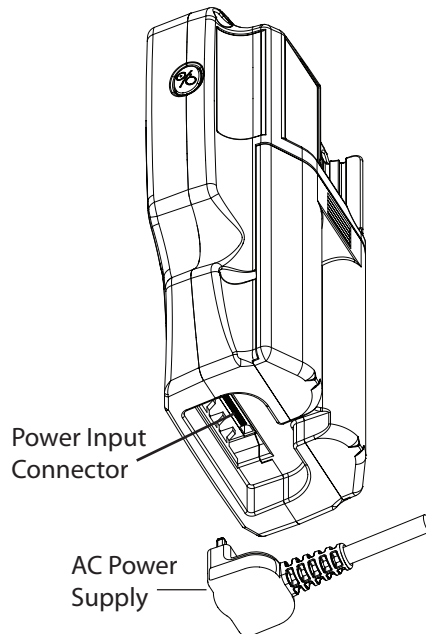
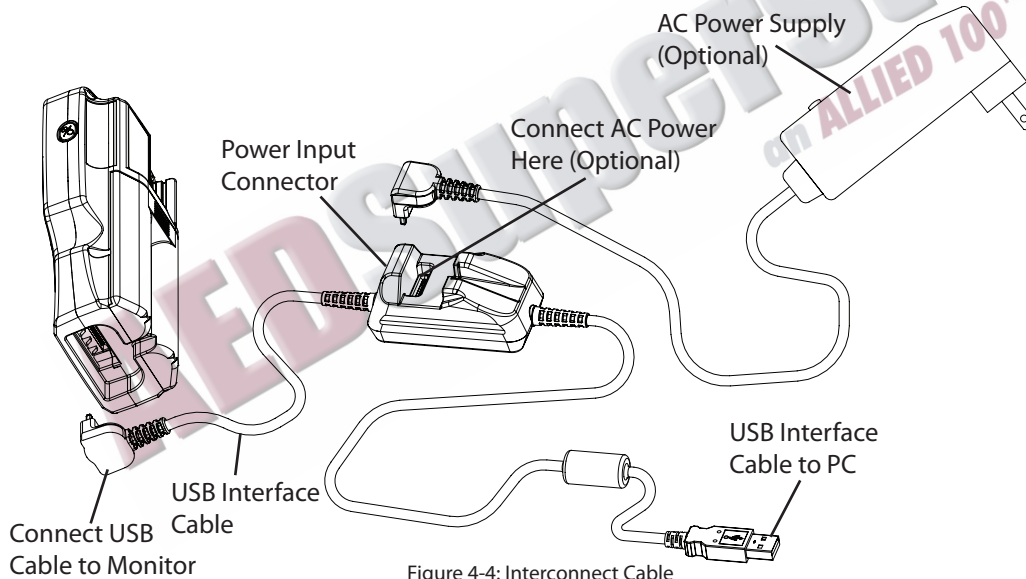

Figure 4-3: AC Power Supply
Figure 4-4: Interconnect Cable
- The AC power supply can be plugged directly into the oximeter (Figure 4-3).
- The AC power supply can be plugged into the WW1089 USB Interface Cable (Figure 4-4).
The AC power supply can plug into the oximeter (Figure 4-3) or into the WW1089 USB interface cable (Figure 4-4).